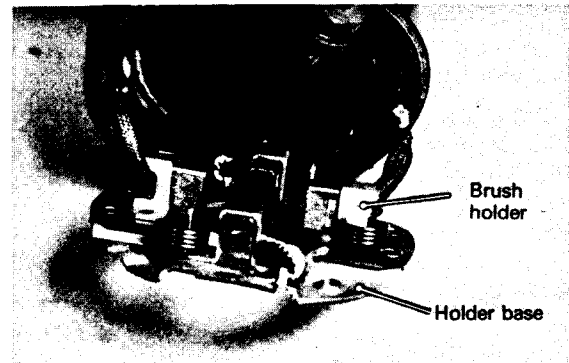

Figure 32
13. Check the brushes (Fig. 32). Replace if worn beyond the service limit. Check the brush spring tension. Replace the springs if tension is less than the service limit. Check for insulation between the positive brush holder and holder base. If poorly insulated, replace the holder assembly. Check the brush holders for proper staking.